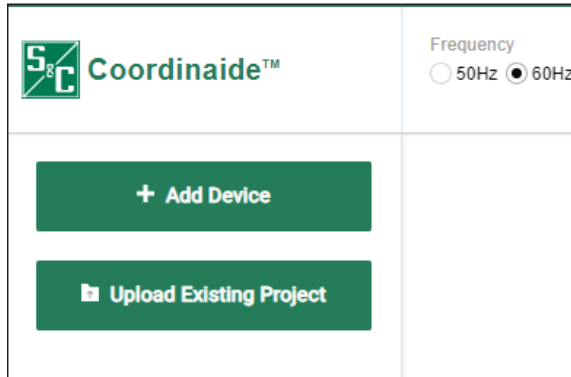

Figure 5. The device-selection area on the *Program* screen.
STEP 1. Select a protective device and add it to the “TCC Plot Area” section by clicking on the + **Add Device** button at the top left of the *Program* screen. See Figure 5.
STEP 5. More device TCC curves can be added to the plot by clicking on the **+ Add Device** button again. See Figure 5 on page 7.